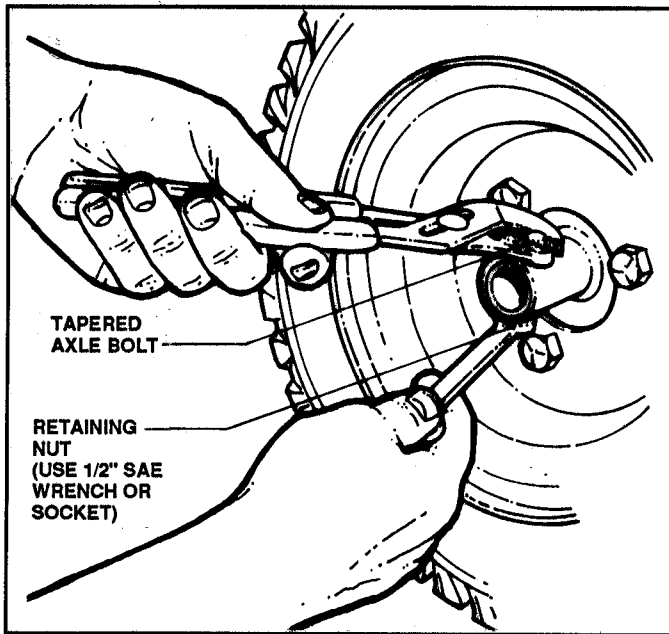

FIGURE 4.18
3. Remove nuts from tapered axle bolts on both drive hubs. Use 1/2" wrench or socket and pliers for removal as shown in Figure 4.18.